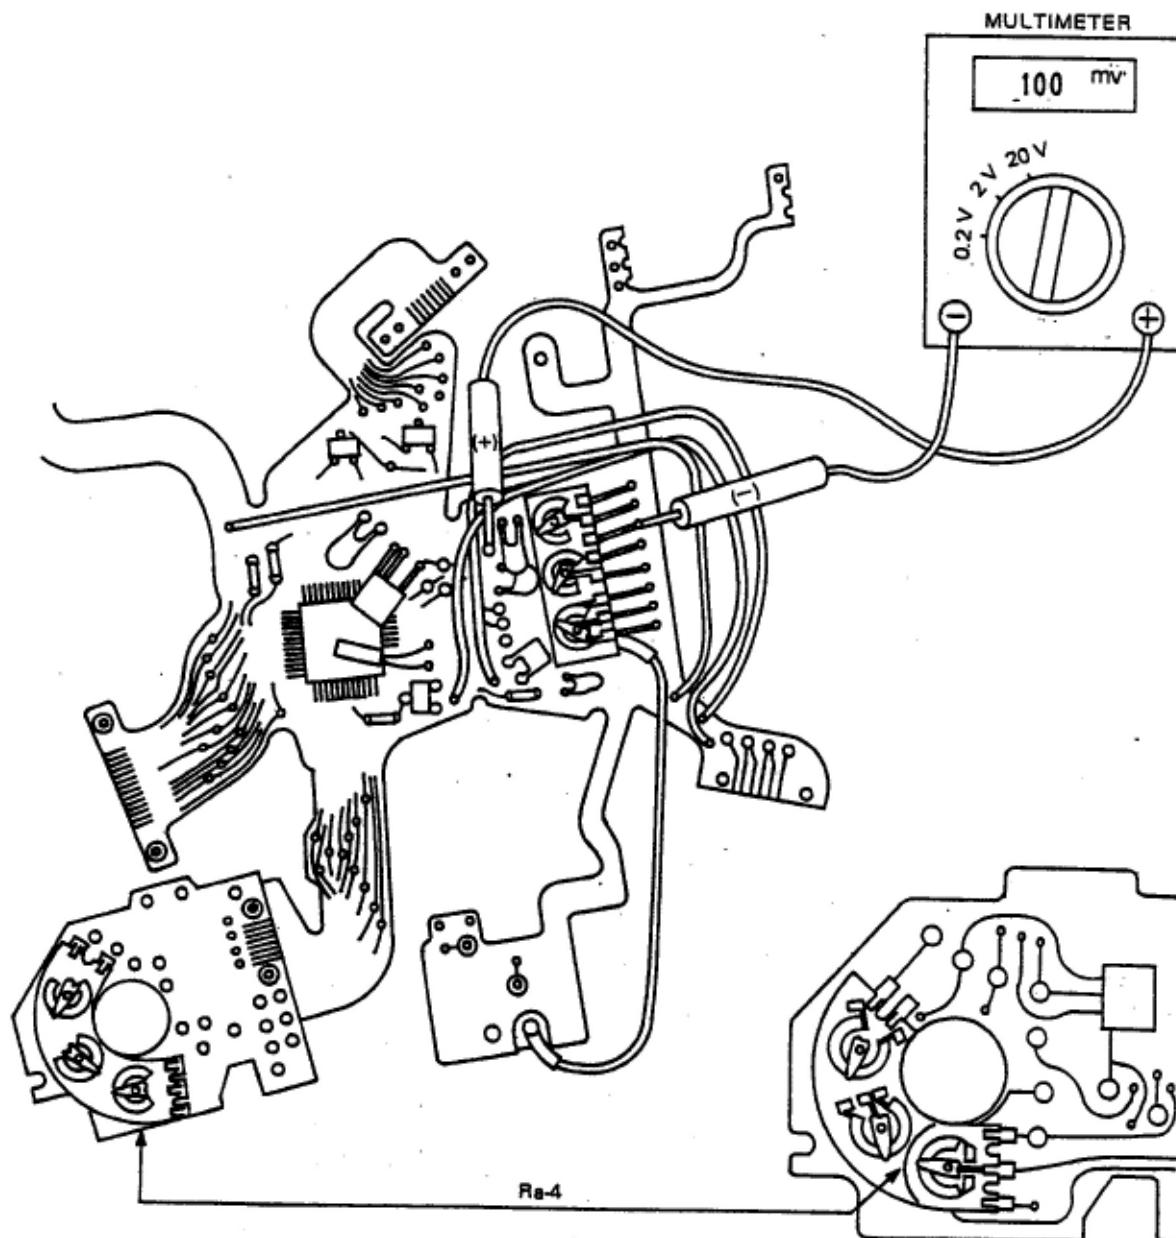

Fig. 75
- Check the voltage between two check points as shown in (fig. 75) with the Digital Multimeter.